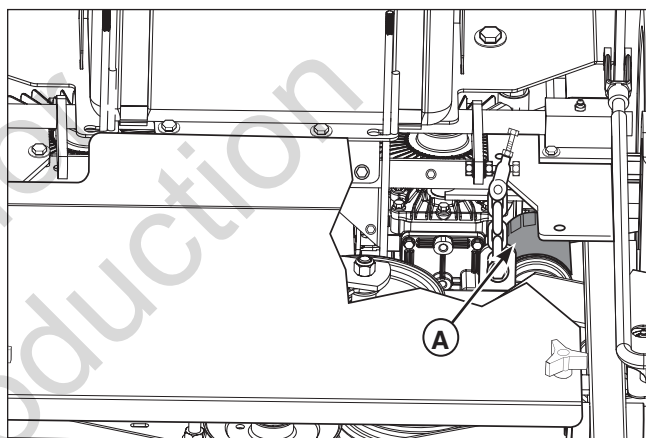

Figure 33. Transmission Oil Filter Location (left-hand side shown with deck guard cut away.)
2. Place a drain pan under each transmission and remove the filters to drain the oil. See Figure 33.